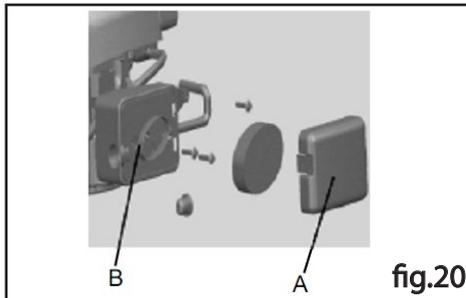

fig.20
2. Replace the air filter (Figure 20)